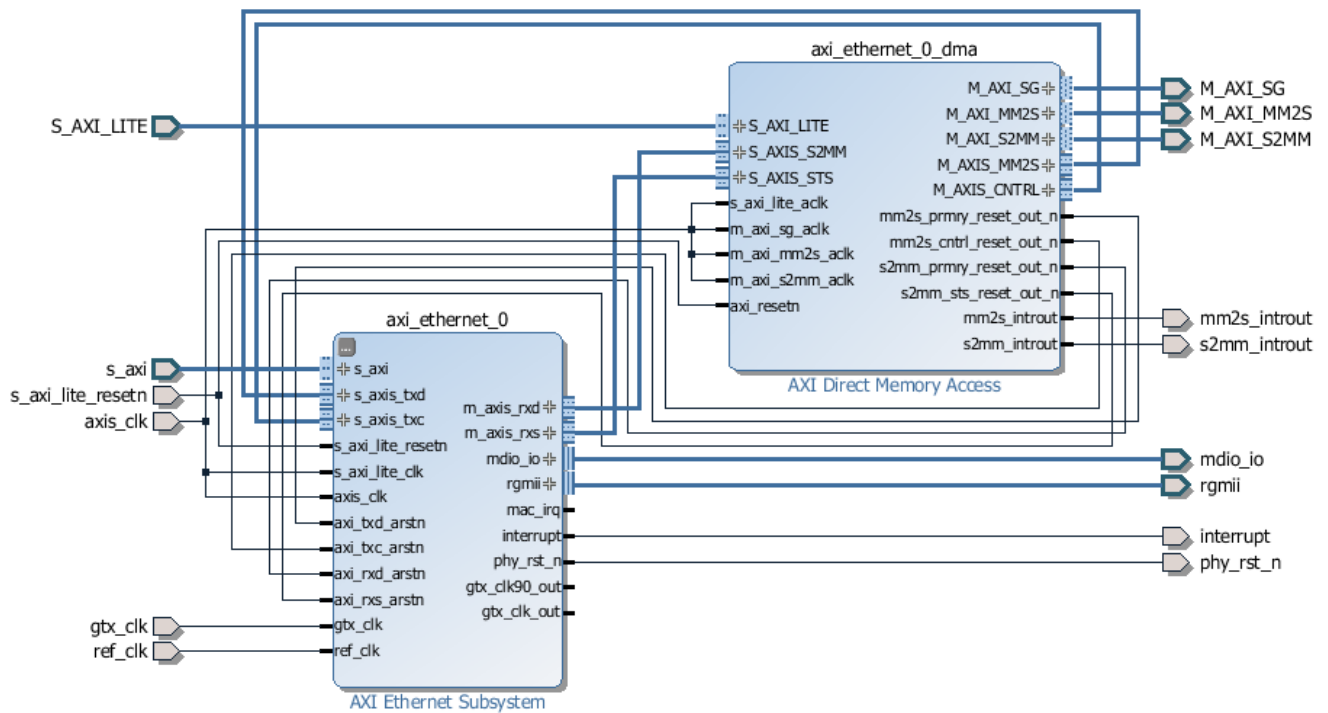

Figure 5: Ethernet subsystem
- The 1Gb Ethernet subsystem is presented in Figure 5.